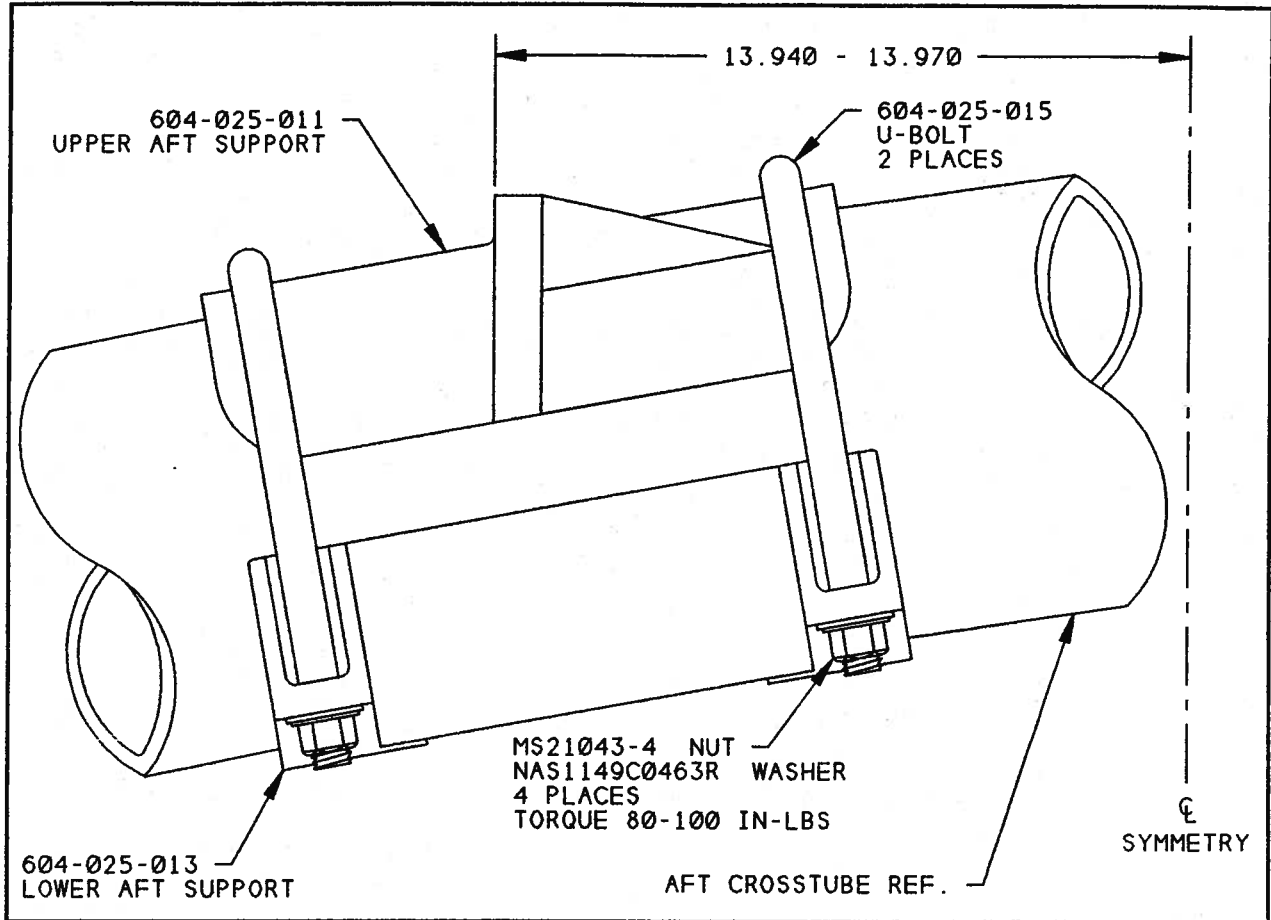

FIGURE 1
8. Reassemble the Upper and Lower Supports and the U-Bolts on the Crosstube, Refer to Figure 1.